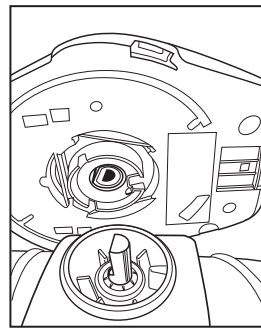

Fig. 1.
1. Align the regulator with the "D" shaft on the damper (see Fig. 1).